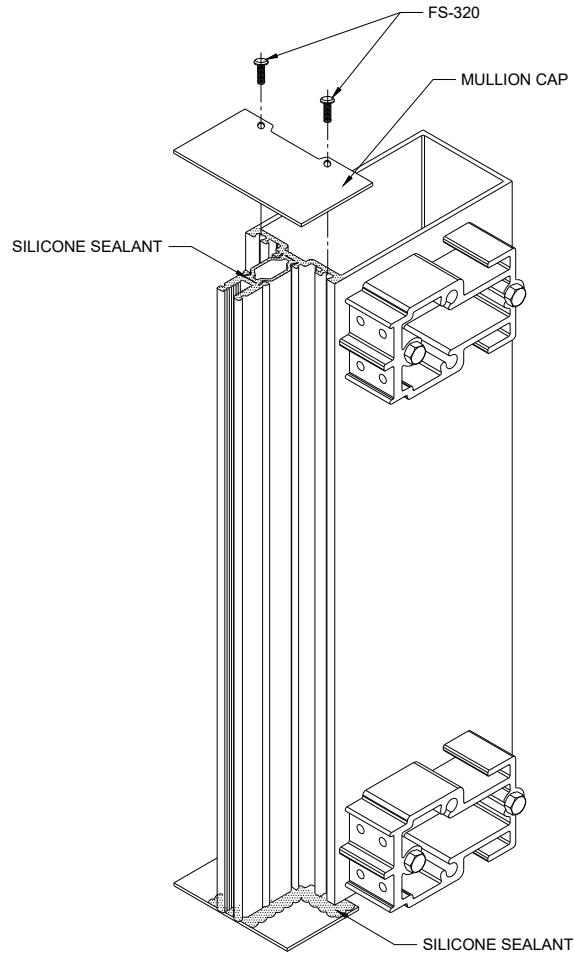

Figure 33: Mullion Cap Installation and Sealing
- 10.8 Apply silicone sealant to Sill and/or Head end of Vertical and attached Mullion Cap with **FS-320** Fastener(s) as shown in *Figure 33*. Apply additional sealant as required and tool joint between Cap and Mullion.